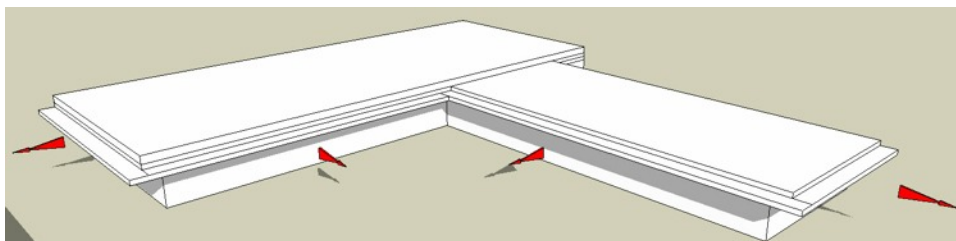

Figure 30. Parapet created by moving Faces outward by 1000mm
- Select the faces between the 300mm and 600mm lines and **Push/Pull** outwards by 1000 mm as shown in Figure 30.